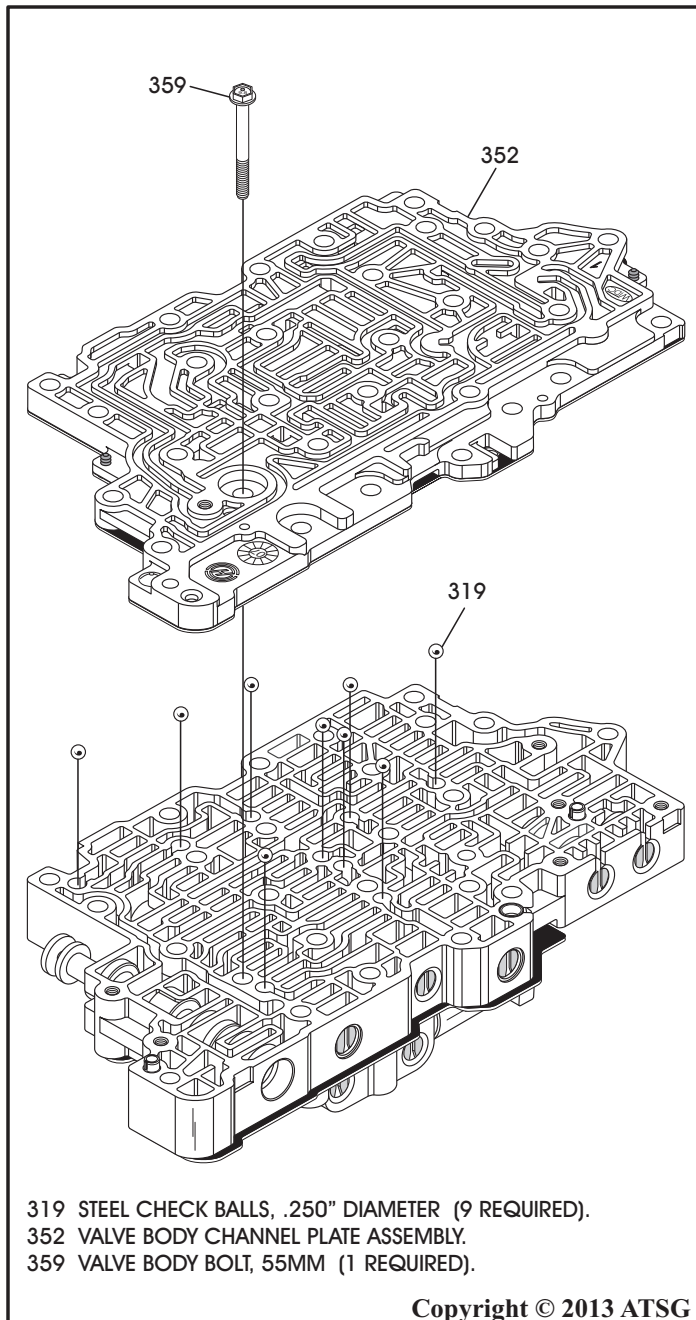

Figure 172
5. Remove one 55 mm bolt that is left, as shown in Figure 172, and remove the valve body channel plate and upper spacer plate assembly.
6. Remove the nine 1/4" steel check balls from the upper valve body, as shown in Figure 172.